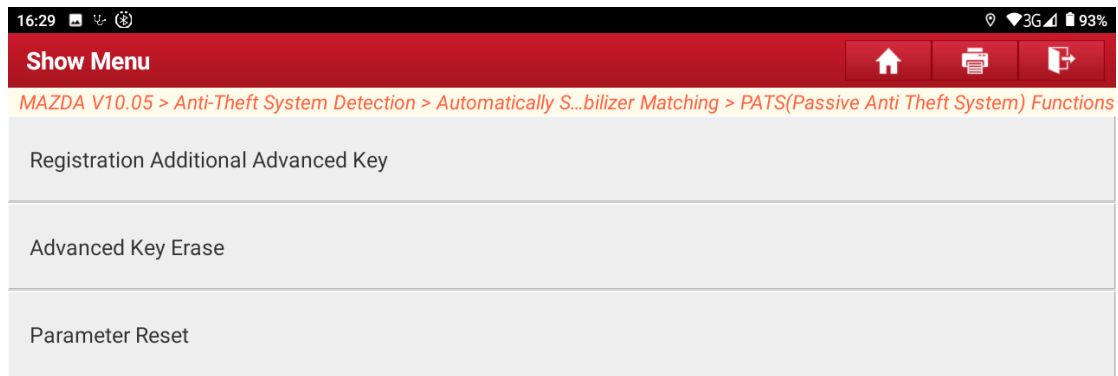

Figure 9
7. Choose [Parameter Reset]. See Figure 9.